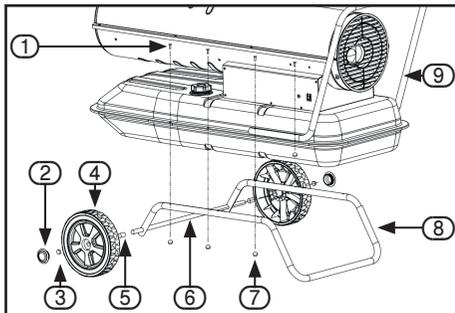

FIG.2
8.2 WHEEL AND HANDLE (04175 & 04176) – FIG.2
- Slide axle (6) through wheel support frame (8). Install wheel spacers (5) if provided. Install wheels (4) on axle (6).
- **IMPORTANT:** When installing wheels (4), point extended hub of wheels toward wheel support frame (8). Secure wheels onto axle using split pins.
- Place cap nuts (7) on axle ends. Gently tap with hammer to secure.
- Place heater on wheel support frame (8). Line up holes on fuel tank flange with holes on wheel support frame (8).
- Place handle(s) on top of fuel tank flange. Insert screws (1) through handle(s) (9), fuel tank flange, and wheel support frame (8). Attach nut finger tight after each screw is inserted.